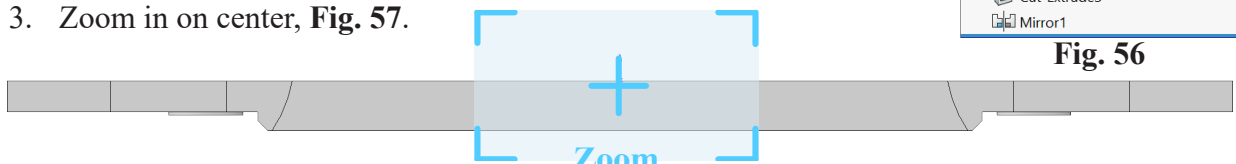

Fig. 57
- Step 3. Zoom in on center, **Fig. 57**.